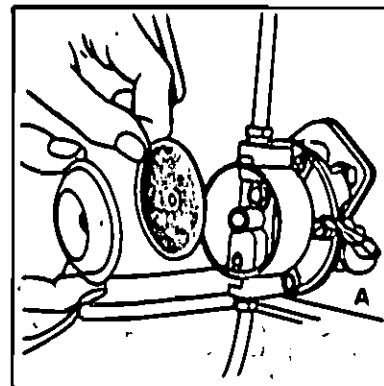

FIG. 7.
4. Operate the priming lever at the side of the fuel lift pump on naturally aspirated unit (Fig. 7.) or the pump plunger (Fig. 6.) on turbocharged engines until a flow of fuel, free of air, is expelled. Then close screw.